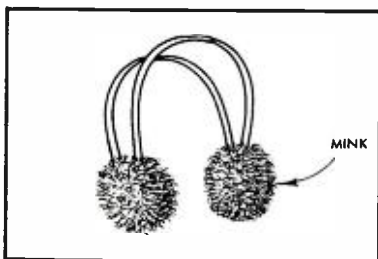
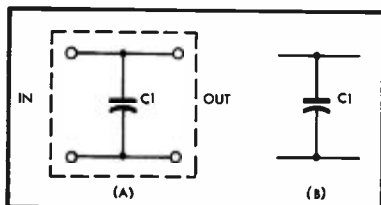

Fig. 2. Device developed to eliminate over-accentuated bass.
Fig. 1. Triangle-elimination network.
An example of such a useful adjunct to a hi-fi system is shown in *Fig. 1*. This device was developed by the author in response to a complaint made by a neighbor, who had invested twelve hundred dollars in a hi-fi system, and was fatigued by the sound of triangles, the musical instrument used to a great extent in swing music and Tchaikowsky. (A) shows the device developed by the author for the almost complete elimination of the sound of the triangles. The value of *C*, is not given, as this would depend on the associated circuitry, and may be best determined by experiment. (B) shows the connection in the circuit.
The author has devised a simple mechanical device to relieve aural fatigue resulting from this condition. *Figure 2* shows a set of ear-muffs made by modifying a conventional hi-fi headset.
The TFM-151, however, sets a new standard for quality performance in a transistor portable. It uses fifteen transistors in a unique assortment of PNP and NPN types—eight in the FM tuner section, three in the AM tuner, and four in the a.f. amplifier. The entire unit, shown in Fig. 1, measures 3×8¼×9 in. and weighs only 5½ lbs. It is powered by four “D” cells with a total of 6 volts.
The Sony TFM-151 is the world's first transistorized AM/FM portable, and Sony deserves praise for both the design and construction. Figure 2 is an internal view of the printed-circuit construction. The AM “front end” is at the left of the gang capacitor, while the FM i.f. strip is the section just above the speaker magnet. The set could well serve for a model for any transistorized construction. A-24
Fig. 1 (left). Sony TFM-151 AM/FM transistorized portable. Fig. 2 (right). Interior of 15-transistor receiver. Note speaker magnet frame projecting through opening in printed-circuit panel.